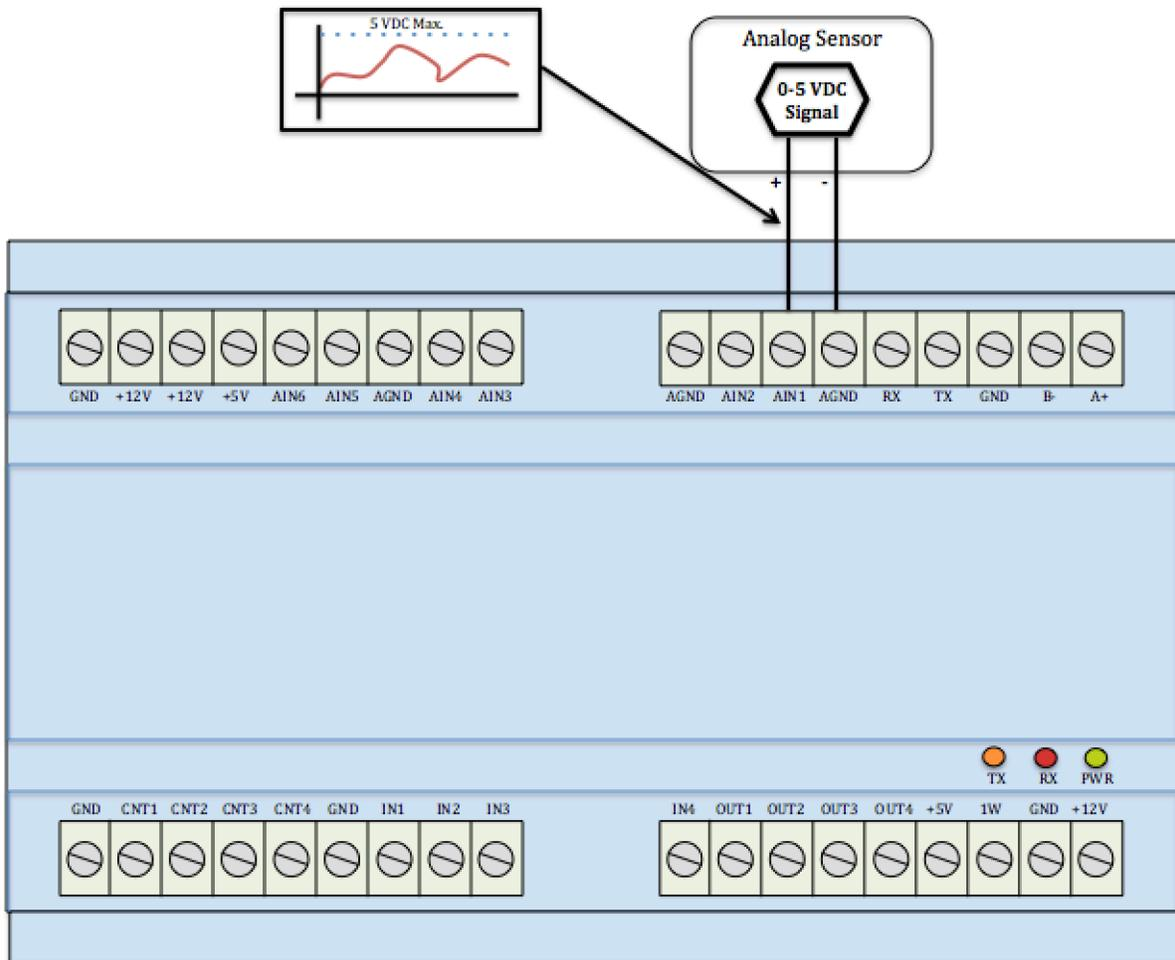

Figure 7. Analog Input Connection Diagram
The inDAC has six (6) inputs labeled AIN1 – AIN6 with an input range of 0 – 5 VDC with 12 bit resolution. The ports are optically isolated with overvoltage protection up to 24 VDC. Although the inDAC records only raw data locally scaling factors are applied on the PowerWise website under the settings page. **Figure 7** is the typical connection to the analog input port.